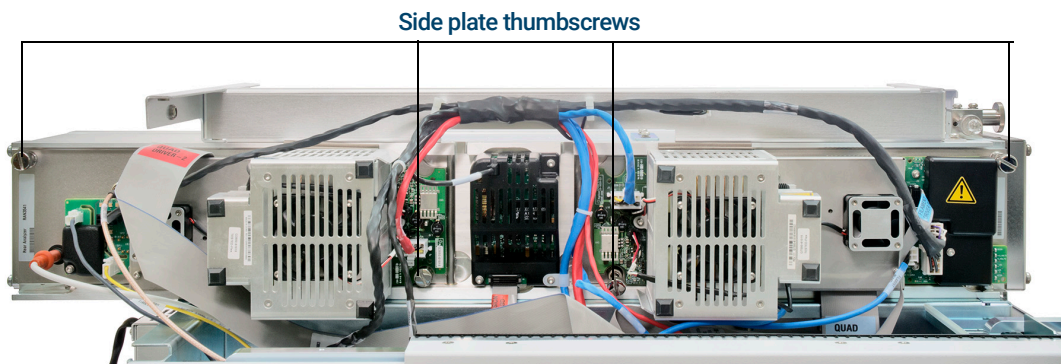

Figure 9. Side plate thumbscrews
- 7 Finger-tighten the side plate thumbscrews for both analyzers. (See **Figure 9.**)